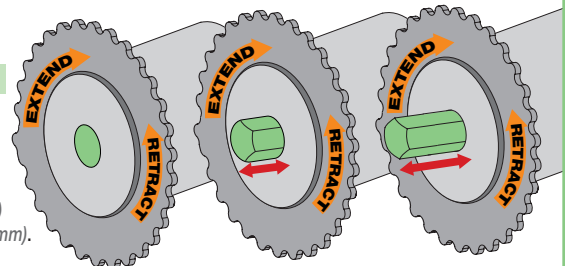

Figure 2
Section 2.1 - Operating the Retractable Coupler Shaft (Fig. 2)
3. Ensure the operator-end fabric/roller assembly's coupler shaft is completely retracted (see "Operating the Retractable Shaft" and Fig. 2).
4. Raise rear/upper fabric/roller assembly into place. While Installer #1 inserts the operator end of fabric/roller assembly into the operator-end bracket, Installer #2 lifts the coupler end up next to the coupler bracket assembly, then extends the coupler shaft to the intermediate position by rotating the ring clockwise about ½ of a turn (see "Operating the Retractable Shaft" and Fig. 2). This will hold the first unit in place during installation of the next panel.
3. The end of the previously-installed coupler shaft should be flush with the outside edge of the bearing. If it is extended beyond the bearing, you can retract the coupler shaft of the previously installed roller to the intermediate position (see "Operating the Retractable Shaft" and Fig. 2).
5. Installer #1 fully extends coupler shaft of previously installed roller by rotating the metal ring clockwise about 180° when viewing the face of the coupler assembly (see "Operating the Retractable Shaft" and Fig. 2), until the shaft extends fully into the receiver of the fabric/roller assembly being installed.
6. Installer #2 extends the coupler shaft of the fabric/roller assembly being installed to the intermediate position by rotating the ring clockwise about 120° (see "Operating the Retractable Shaft" and Fig. 2) so the end of the shaft is flush with the outside edge of the bearing.
3. Retract coupler shaft of previously installed roller to the intermediate position (see "Operating the Retractable Shaft" and Fig. 2). The end of the coupler shaft should be flush with the outside edge of the bearing.
6. Installer #2 fully extends coupler shaft of previously installed roller by rotating the metal ring clockwise about 1/2 of a turn when viewing the face of the coupler assembly (see "Operating the Retractable Shaft" and Fig. 2), until the shaft extends fully into the receiver of the idler-end fabric/roller assembly.